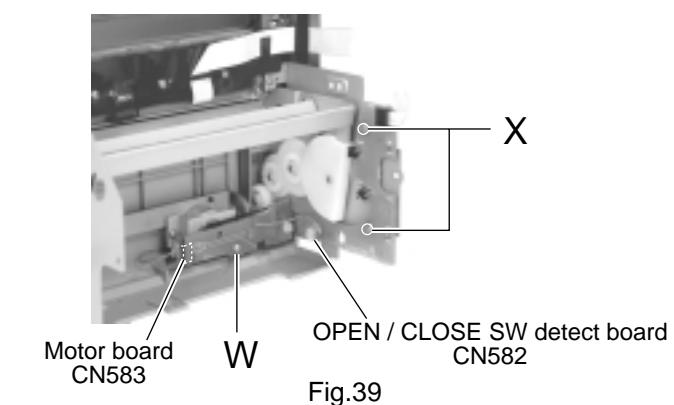

Fig.39
■ Removing the motor board (See Fig.39)
■ Removing the OPEN / CLOSE SW detect board (See Fig.39)